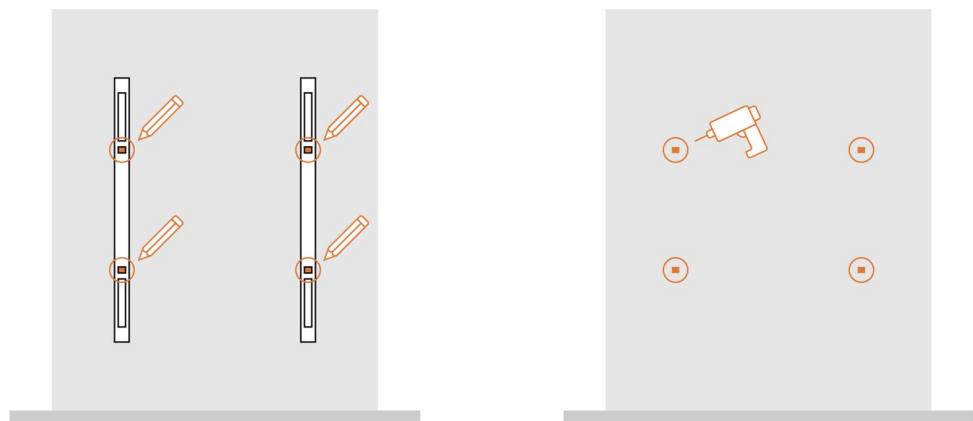

Figure 3 | Finding and marking drill hole locations. Drilling the holes and inserting wall plugs.
- 4. Mark the drilling locations through the holes in the U-rails, as seen in **Figure 3**.